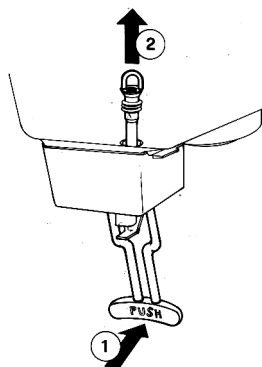

figure 4
- 2 - BS lines: remove pump assembly from its bowl location by turning (1) clockwise and lifting it up (2) (see figure 4).
- 1 - Push (1) the dispensing handle and remove (2) the pinch tube from its vertical seat in the bowl bottom (see figure 4).